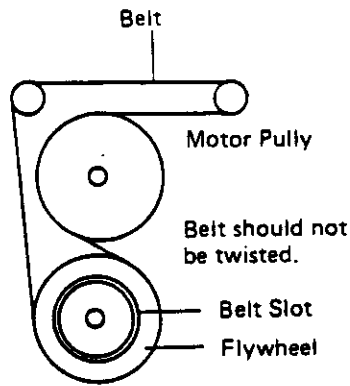

FIGURE 4-16. BELT REPLACEMENT
- b. Clean a good belt with alcohol and thread the belt. Assemble the unit, performing above steps in reverse order (see Figure 4-16).